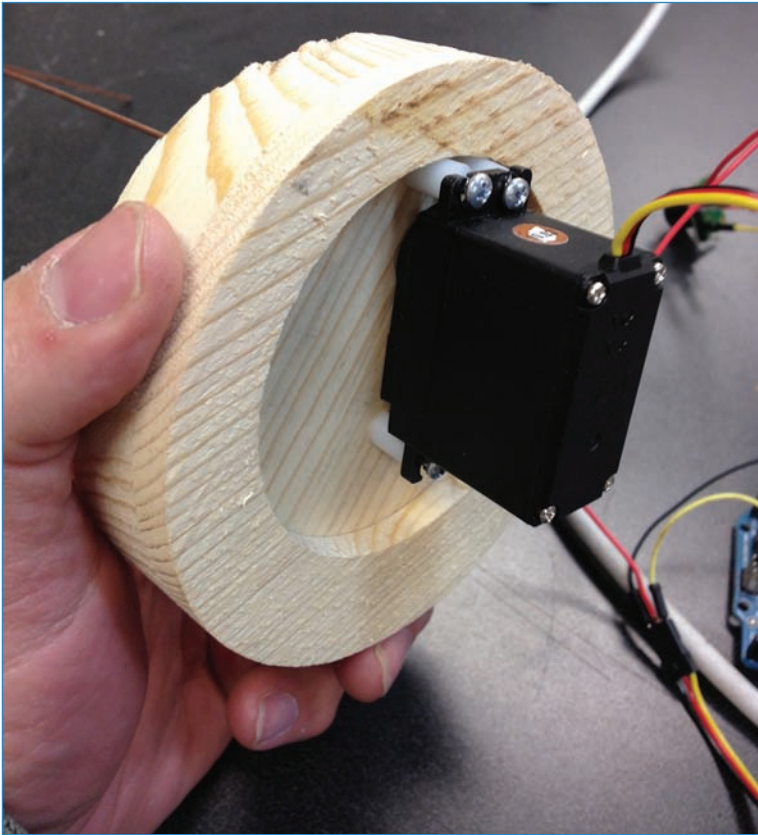

FIGURE 9.18 Attaching the motor with screws and stand-offs.
9. Connect the heavy wire to the hub. In my case, I used hot glue but you might decide you want a more robust attachment. You then thread the wire through the $3/16$ " hole you drilled in the top and when it's flush, attach it with the $\#4 \times 3/4$ " wood screws and $3/8$ " plastic standoffs, as shown in Figure 9.18.